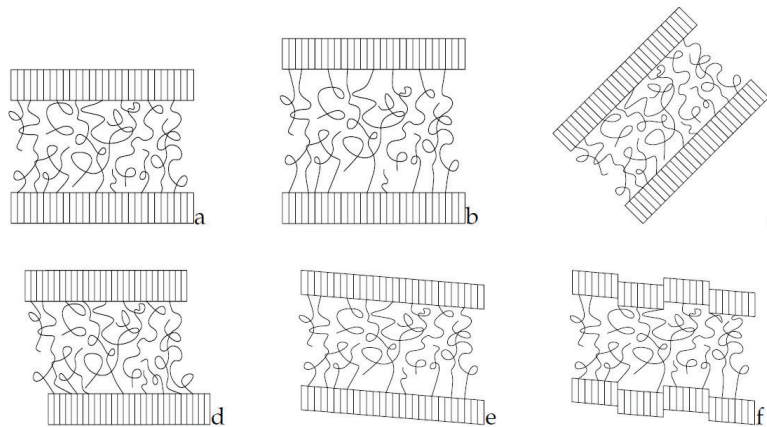

Figure 2 / Rajah 2
- (c). The evolution of tensile deformation of typical semi-crystalline polymer can be represented as shown in schematic diagram, Figure 2 (a-f). Explain processes from (a-f) by taking into account the microstructural changes within the polymer structure.